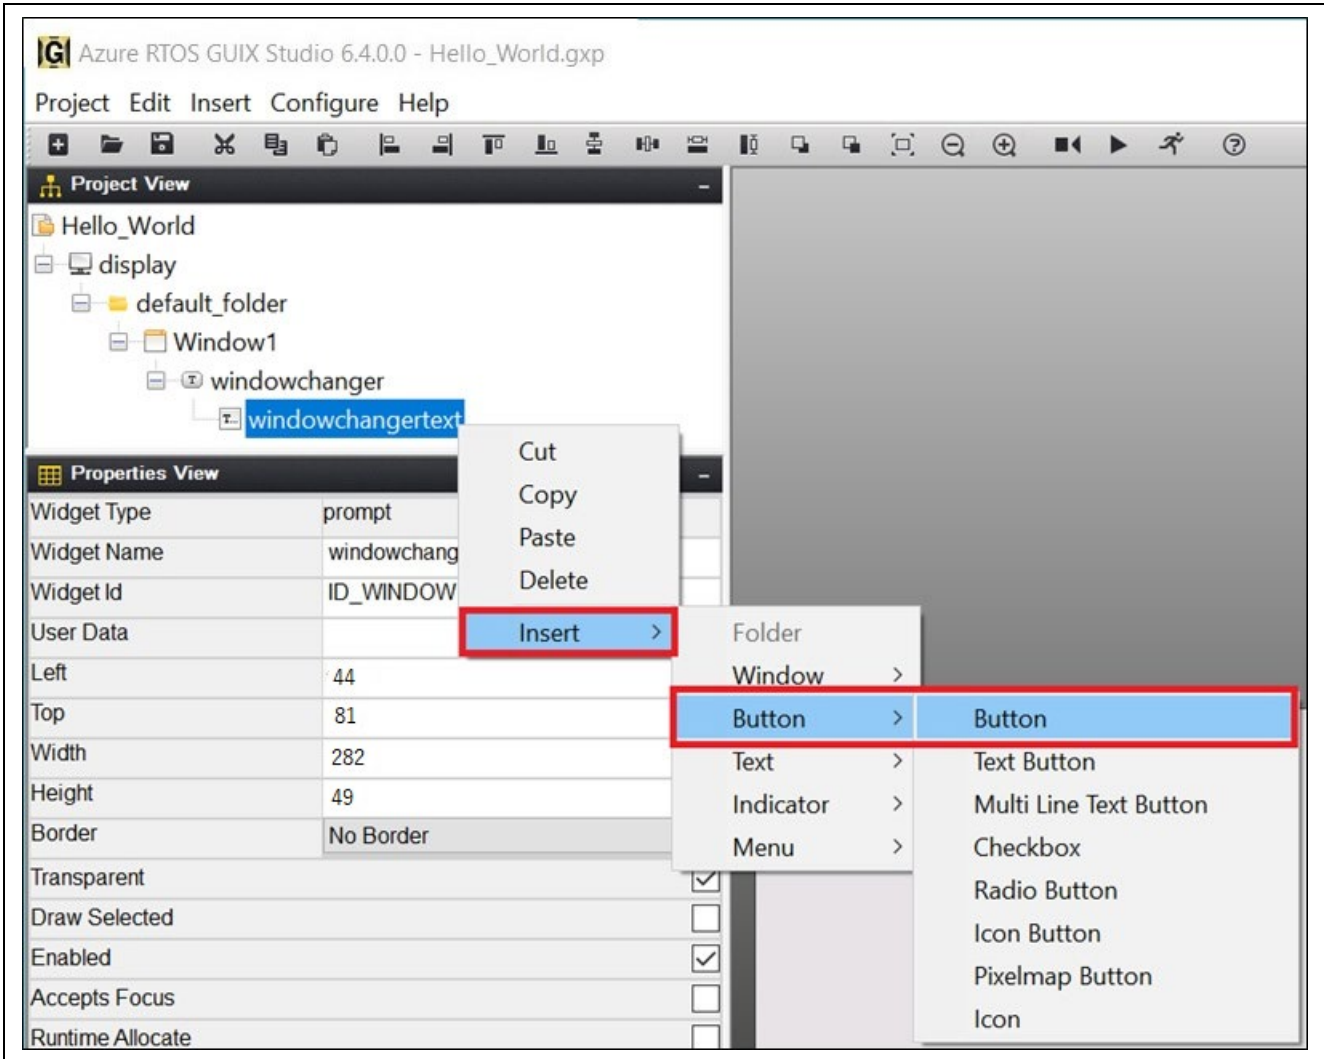

Figure 52. Insert Button
15. Insert new **Button**. Right-click on **windowchangertext** and follow **figure 52**.